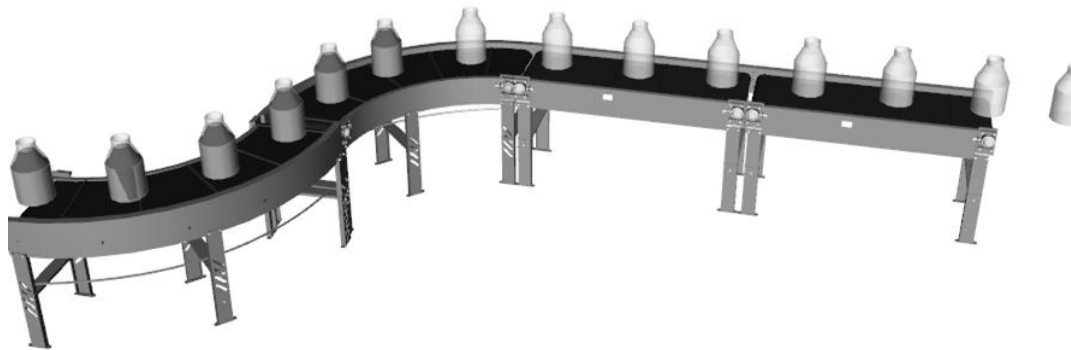

Figure L6.9 - Conveyor with Bottles
6. Drag the “Full Bottle” out from the GENESIS64TrainingSymbols and stack it on top of the conveyor. Again, duplicate this bottle so that it looks like Figure L6.9.